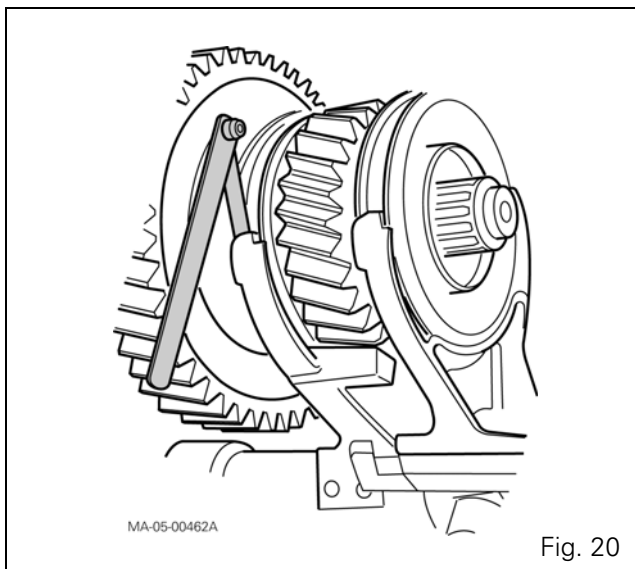
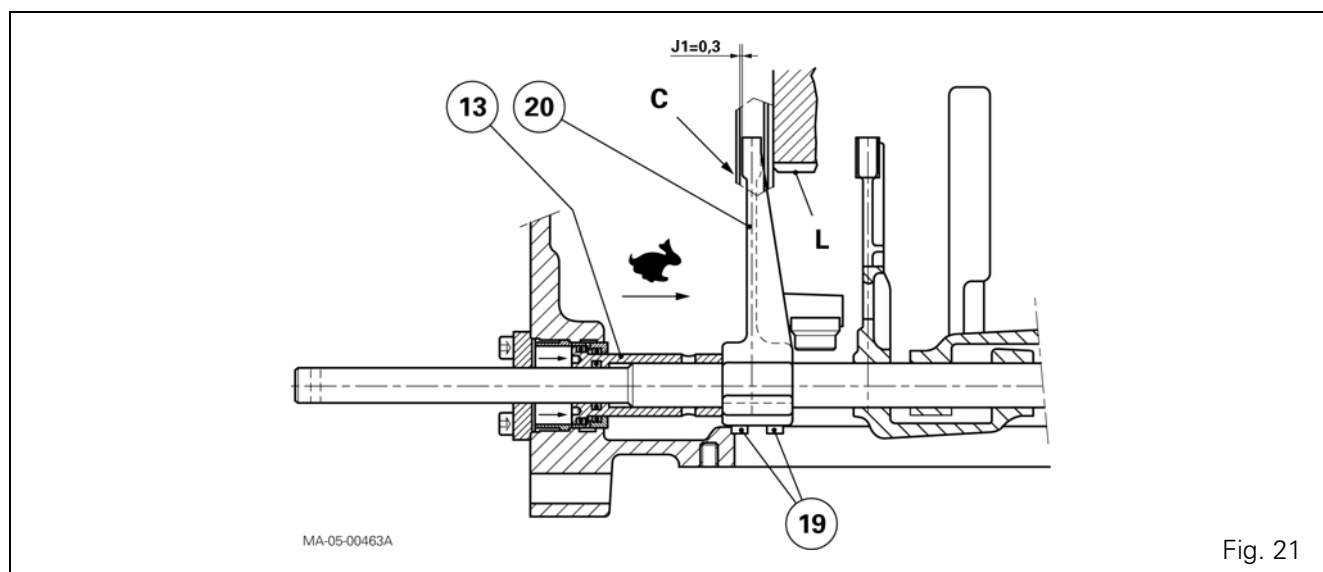

Fig. 20
Fig. 21
72. Position the control piston (13) and the sliding coupler "C" in the high range (Hare) (Fig. 21).
73. Hold the sliding coupler manually against gear "L" of the high range (Fig. 21).
74. Adjust the position of the fork (20) using the two adjustment screws (19) previously cleaned in solvent and lightly smeared with Loctite 221 or equivalent, in order to obtain a clearance of **J1 = 0.3 mm** between the rear face of the pad and the sliding coupler (Fig. 20 - Fig. 21).
IMPORTANT: In the Tortoise position, if face "X" of the fork pad (20) is driven against the sliding coupler "C", increase the clearance J1 (Fig. 21).